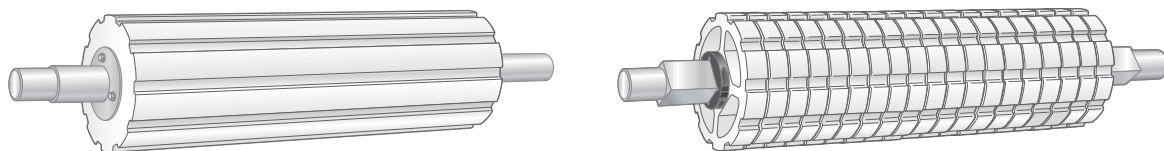

Figure 21
- Choose a full-width sprocket or stacked sprockets (Figure 21) for heavily-loaded applications.